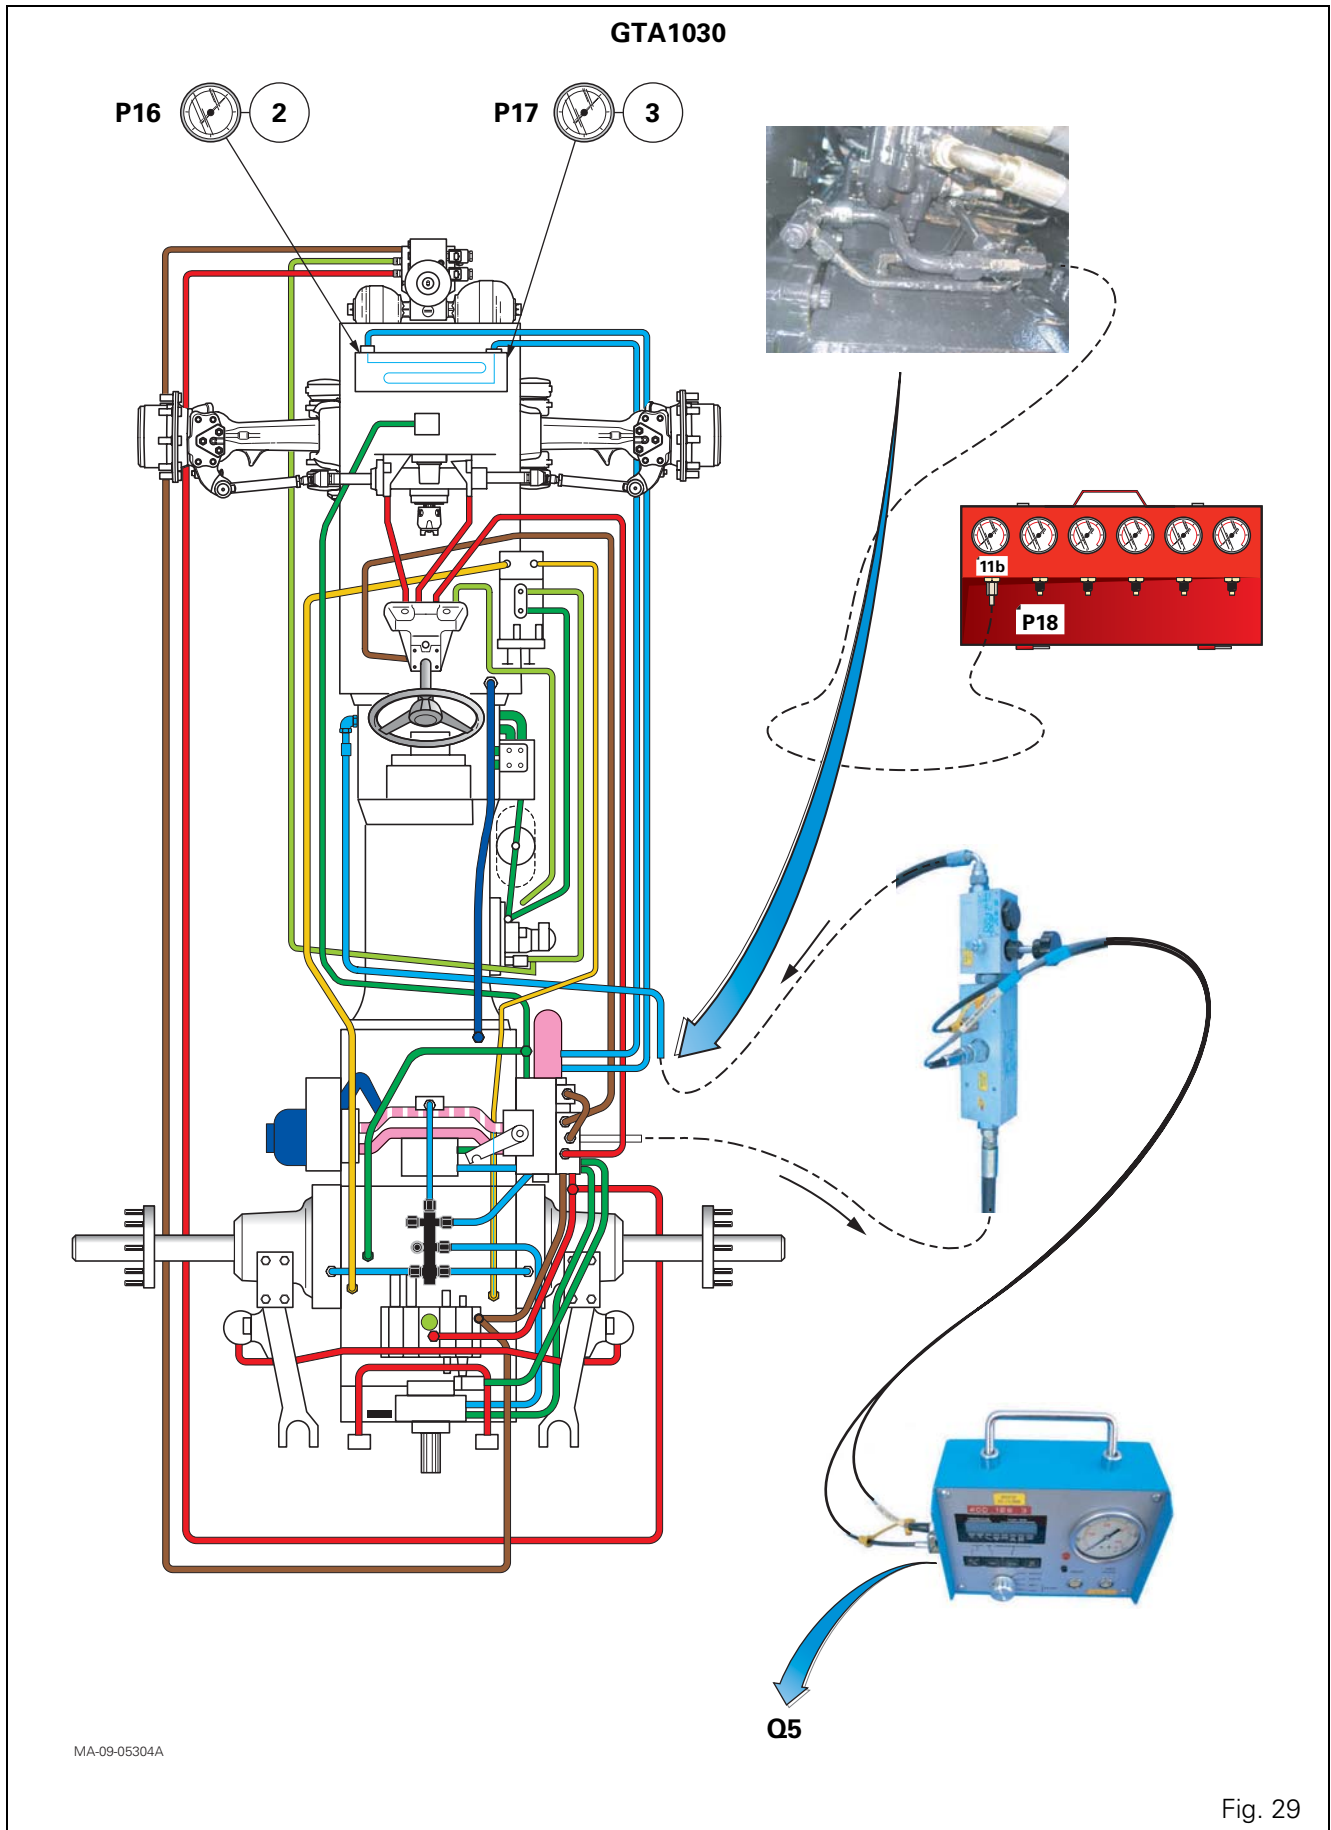
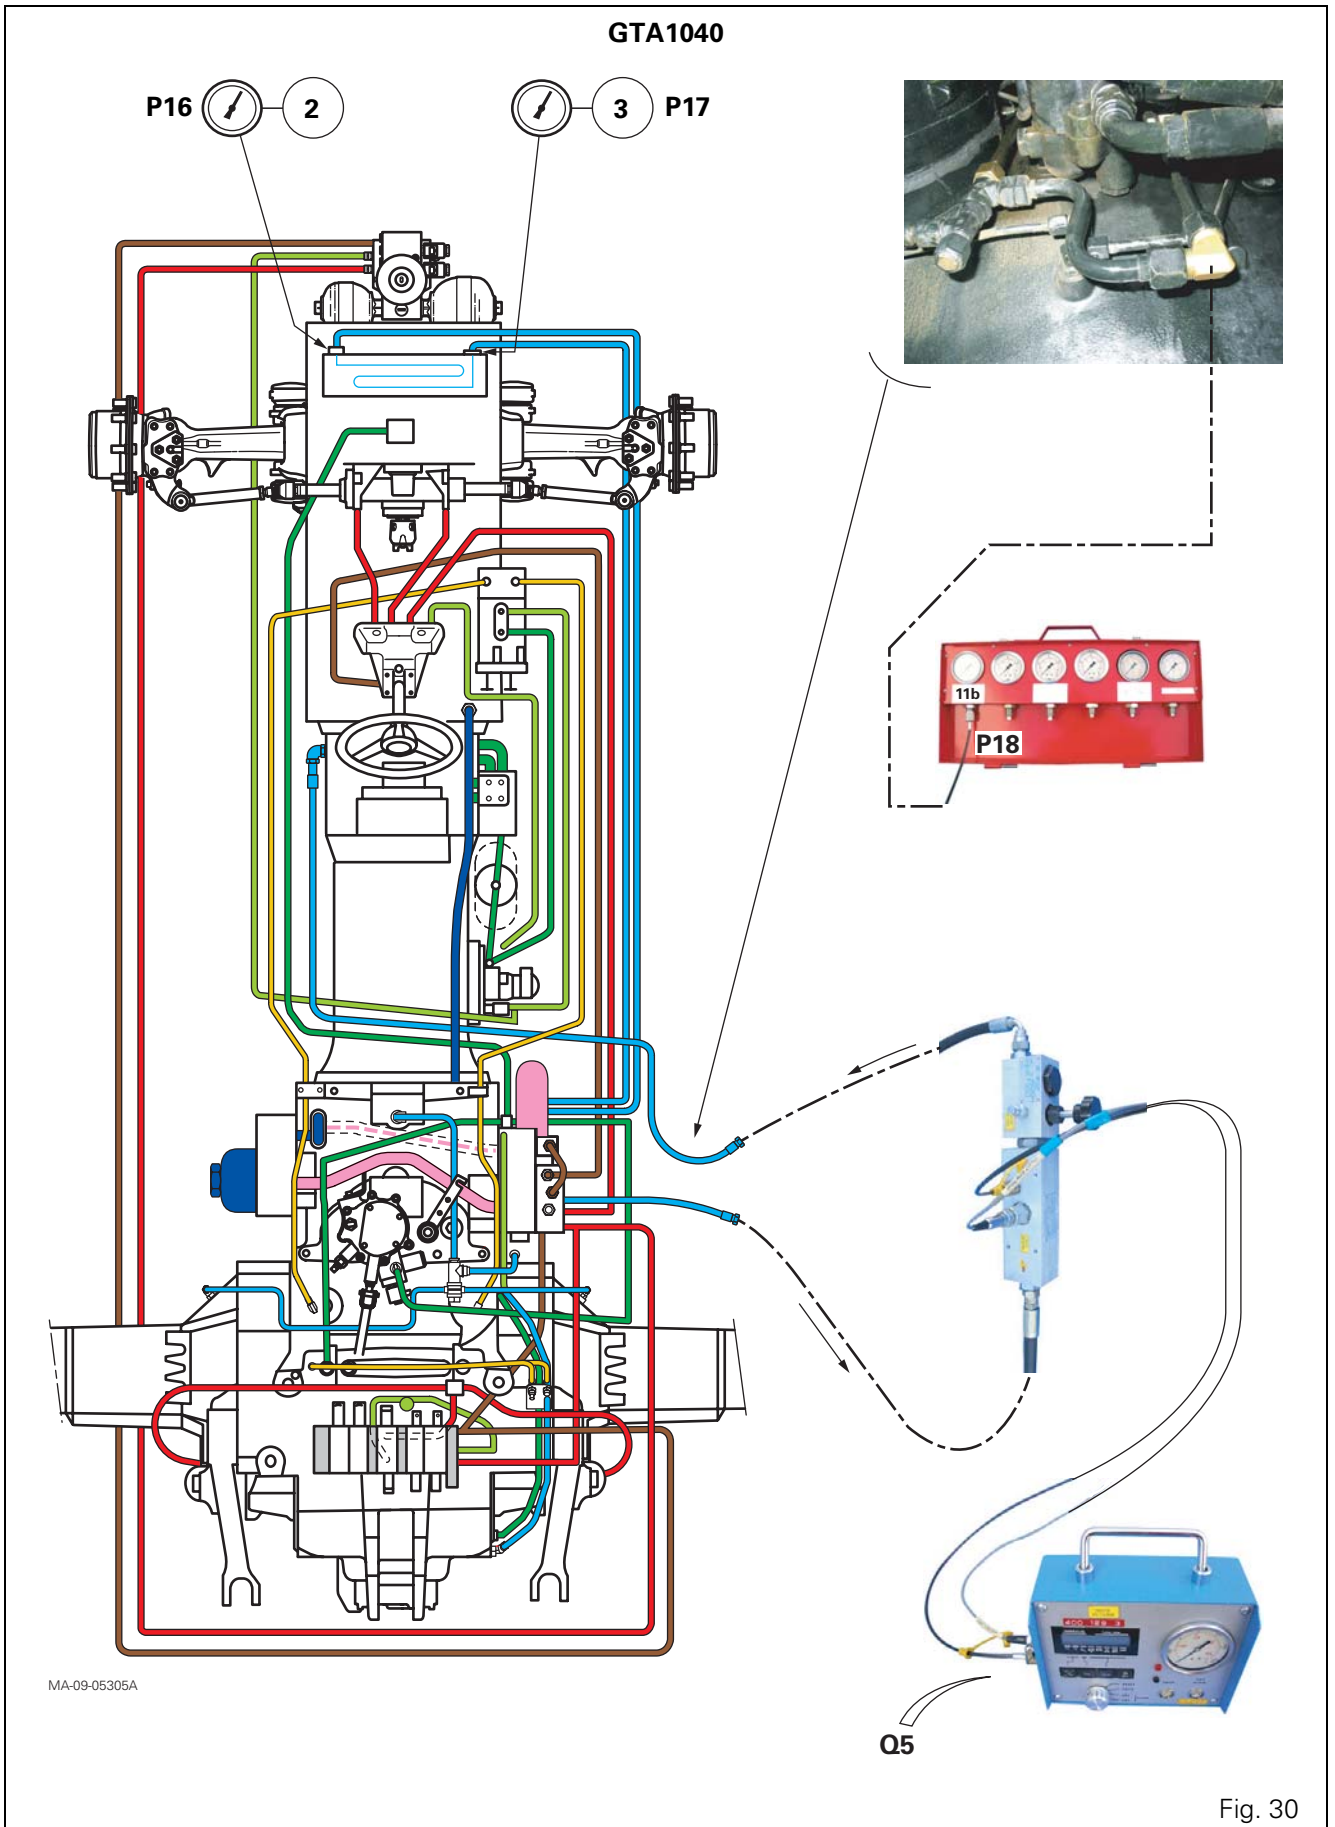

Fig. 29
Fig. 30
If necessary, connect a pressure gauge with a capacity of around 11 bar to the oil cooler inlet (2) in order to check **P16** and to the outlet (3) in order to test **P17** (Fig. 29, Fig. 30, Fig. 31).
- under the right-hand hydraulic cover of the rear axle (GTA1030 and GTA1040) (Fig. 29, Fig. 30).
- Check **Q5** (Fig. 29, Fig. 30, Fig. 31, Fig. 32).
- under the right-hand hydraulic cover of the rear axle [GTA1030 and GTA1040 (Fig. 29, Fig. 30)] and [GTA2520 (Fig. 32)].